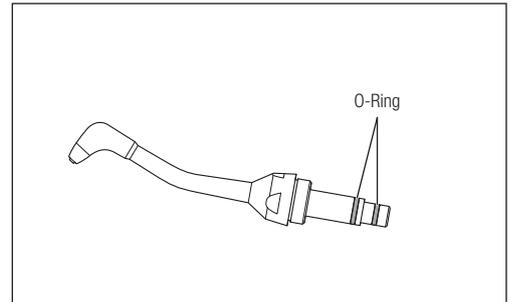

Fig. 46
- 2) Remove the O-rings from the root of the Nozzle using a needle, etc. (Fig. 46). If there is powder in the O-ring grooves, clean the groove before inserting the new O-ring.